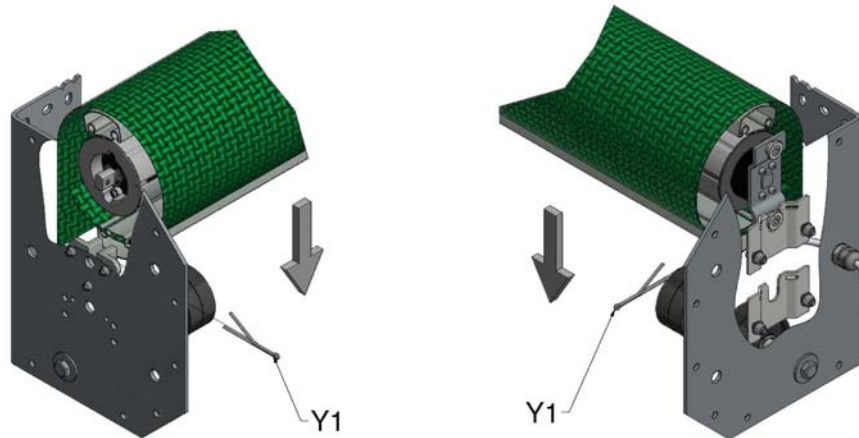

Figure 7, Locating Top Tube In Brackets (RH Drive Shown)
6. When lifting the roller assembly onto the top brackets, ensure that the spring shaft and the pins on the motor head slide completely into the base of the cup brackets (Figure 7). Lock in place with the M4 split pins (Y1) each end.